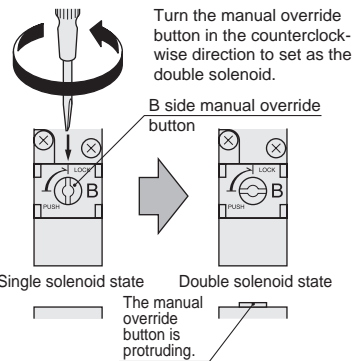

Figure 2
2. As shown in Fig.2, use a small screwdriver, etc. to turn the manual override on the B side by 90 degrees in the counterclockwise direction, so that the manual override button's slit is horizontal, as shown on the right side of the figure. Then the unit can be used as a double solenoid valve. When using it as a double solenoid valve, the button is used as the manual override button for the B side.